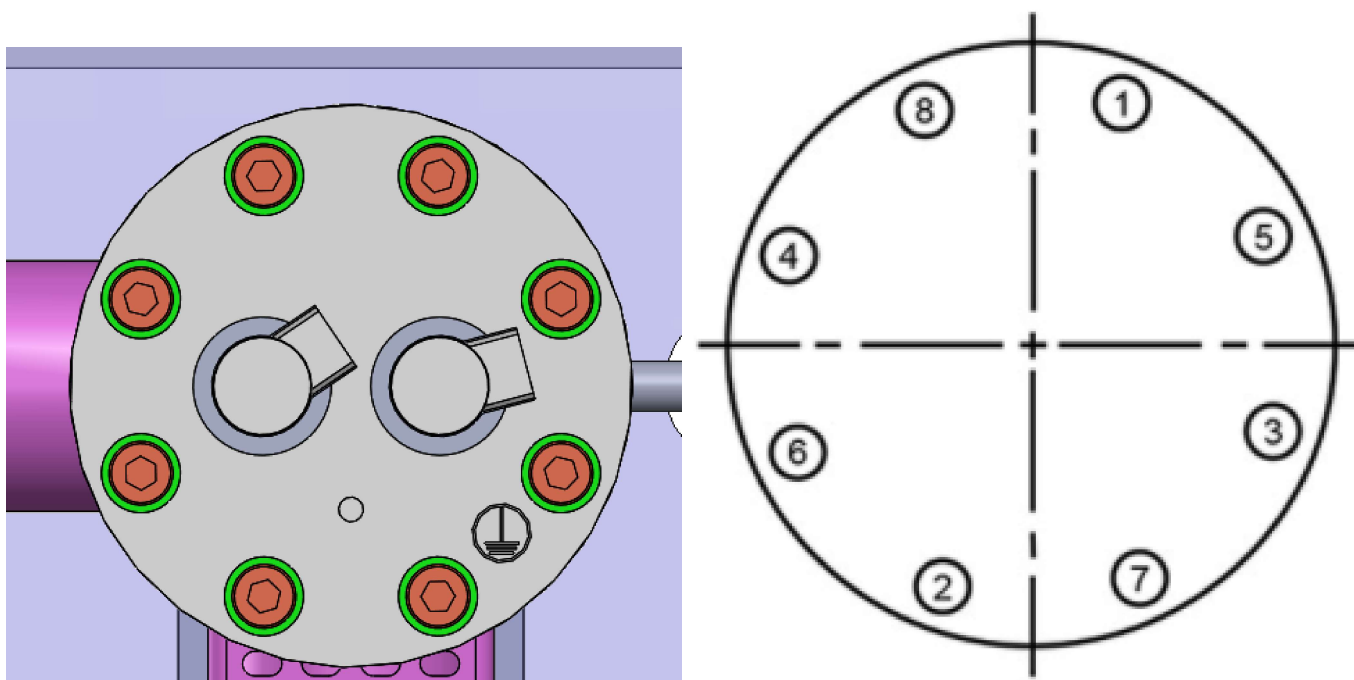
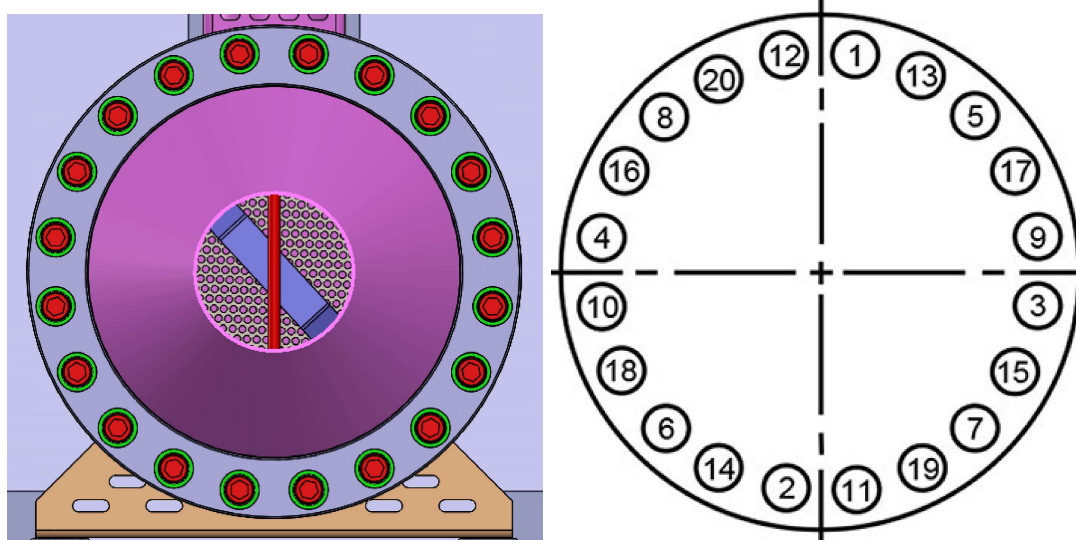

Figure 4-61. Heater Housing End Cap - M8X1.25X30 SHCS – Qty 8
Figure 4-62. Zeolite Cartridge End Cap - M8X1.25X40 Hex Head Nickle Plated – Qty 20
13. Torque Screws between 35 +/- 3 Nm using tightening pattern in Figure 4-62 and Figure 4-61.